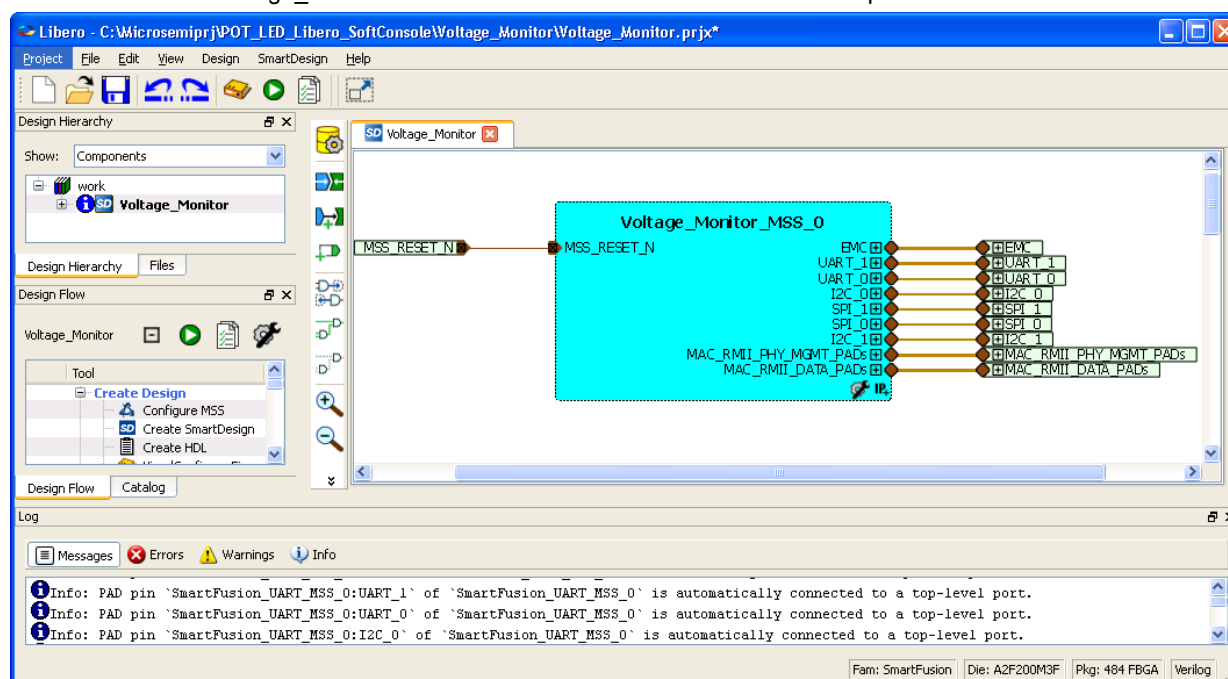

Figure 3 · The Libero Window After Completing New Project Wizard
- The project is created and the Libero SoC window appears as shown in Figure 3 . The SmartDesign “Voltage_Monitor” is created with the instantiation of MSS component.